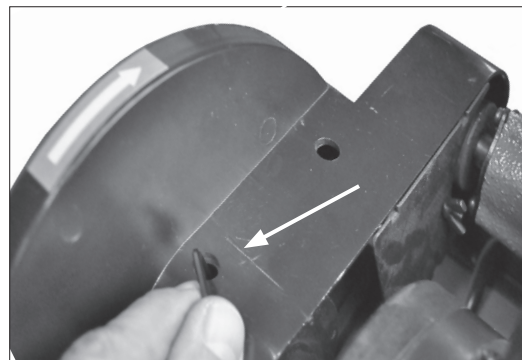

FIG. 7
19. Tighten the disc onto the motor shaft with the pre-installed hex Set Screw (#34). You can get access to it through the hole in the cover guard. FIG. 7.